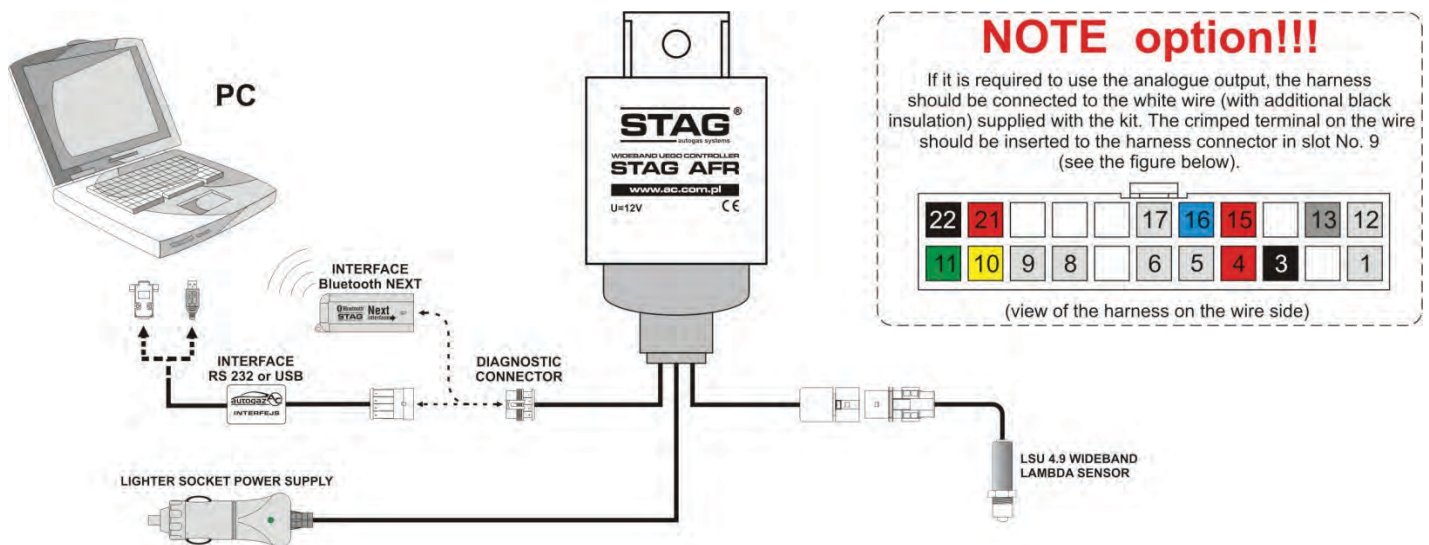

Figure 1. Wiring diagram for STAG AFR connection
STAG AFR is provided with an analogue 0V to 5V output. It can be used to connect an external AFR indicator, as well as chassis dynamometers with an analogue input for the AFR reading, external data loggers and standalone/piggyback type ECM units. Activation of the option requires connecting an additional cable included in the kit to the harness, in accordance with fig. 1. Relation of the analogue output voltage level to the AFR and Lambda value has been presented in Table No. 1.
The system is also provided with an NB (narrow band) Lambda probe emulator function. The output signal is kept within 0.1V – 0.9V and this is ensured by connecting an additional wire to pin No. 8 in the controller connector (Fig. 1). When the wide-band (WB) probe is cold, the output is in a high impedance state, i.e. it does not generate any voltage, which corresponds to the characteristics of a cold NB probe, so the ECU should work in an open loop (OL) mode. Additionally, the STAG AFR controller is equipped with an in-built NB probe heater
emulator, which can be connected to the ECU harness to avoid the occurrence of fault codes related to the probe heating circuit. In order to activate the emulator, connect respective wires to pins 1 and 12 in the STAG AFR controller connector (Fig. 1).